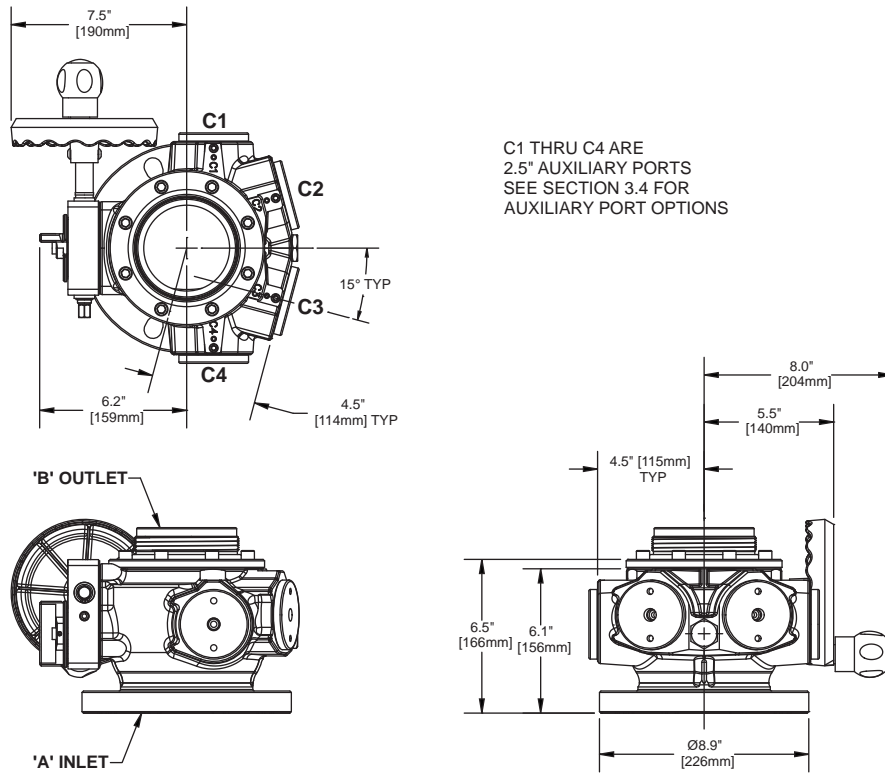

Figure 3.3a
* versus 4" ANSI 150 monitor without VUM. Gross height of CODE-RPM is 0.94" taller than net height – see figure 3.3a